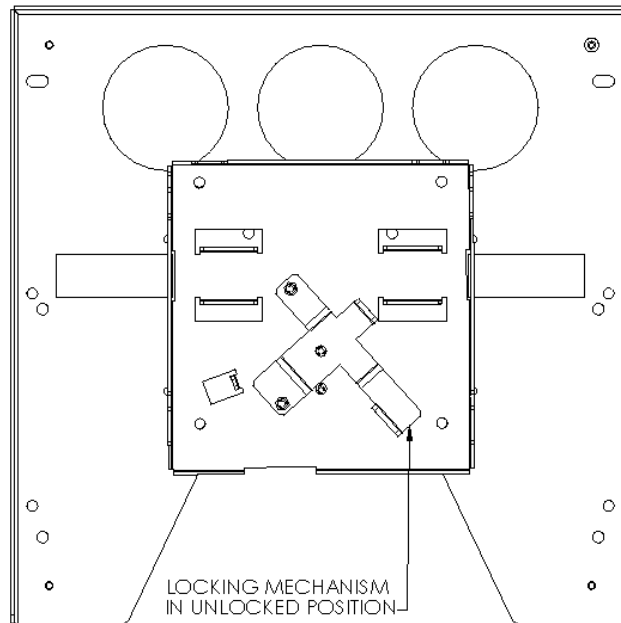
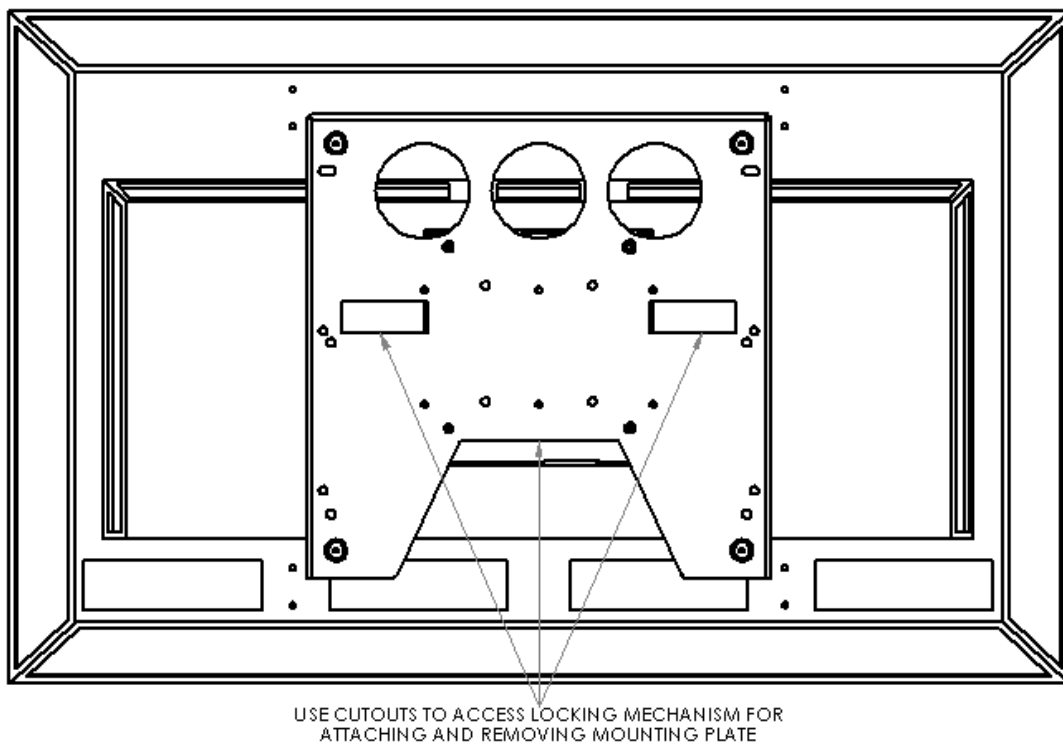

Figure 6
Figure 7
4. Reattach mounting plate to back of display (see Figure 6 & Figure 7). Make sure locking mechanism is to the side (unlocked position) before placing plate on display. Once in place, secure plate to back of screen by moving locking arm to down position.